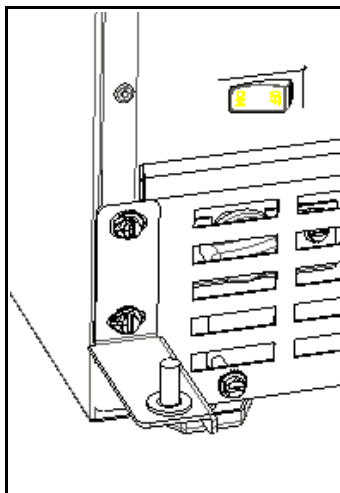

Figure 13
5. Remove screws on opposite side of cabinet (**Figure 13**). Note that there may be a nut behind one or both screws on either side.